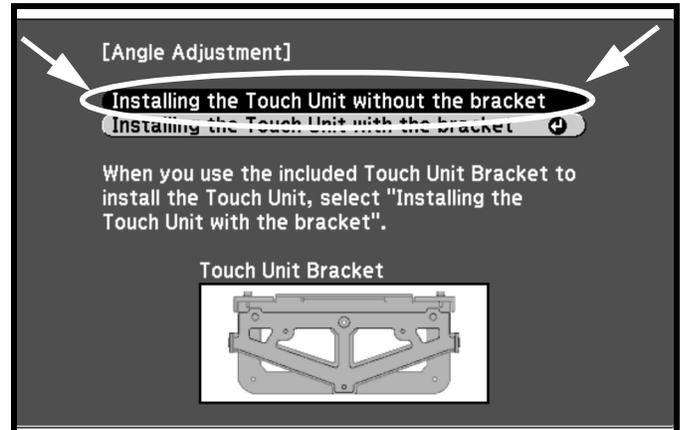

Figure 36
5. Select **Installing the Touch Unit without the bracket**. (See Figure 36)
NOTE: The bracket included with the projector (and shown in Figure 36) will **NOT** be used.